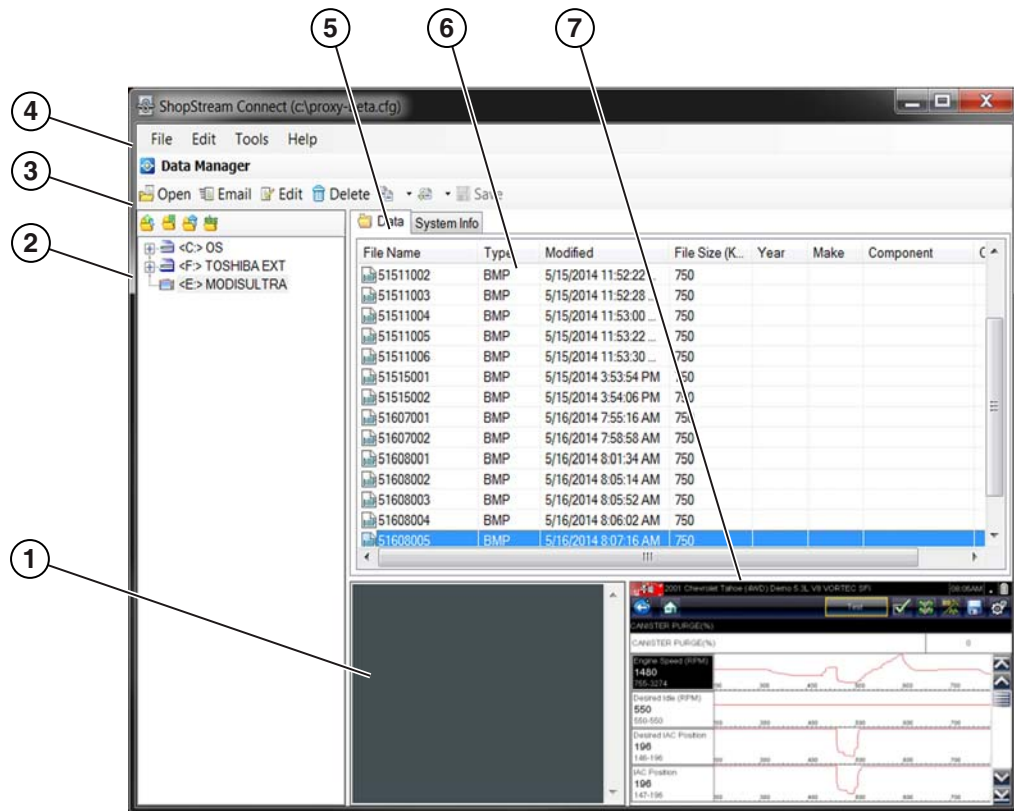

Figure 4-39 Exit selection
1. Select **Exit** from the dropdown menu (Figure 4-39).